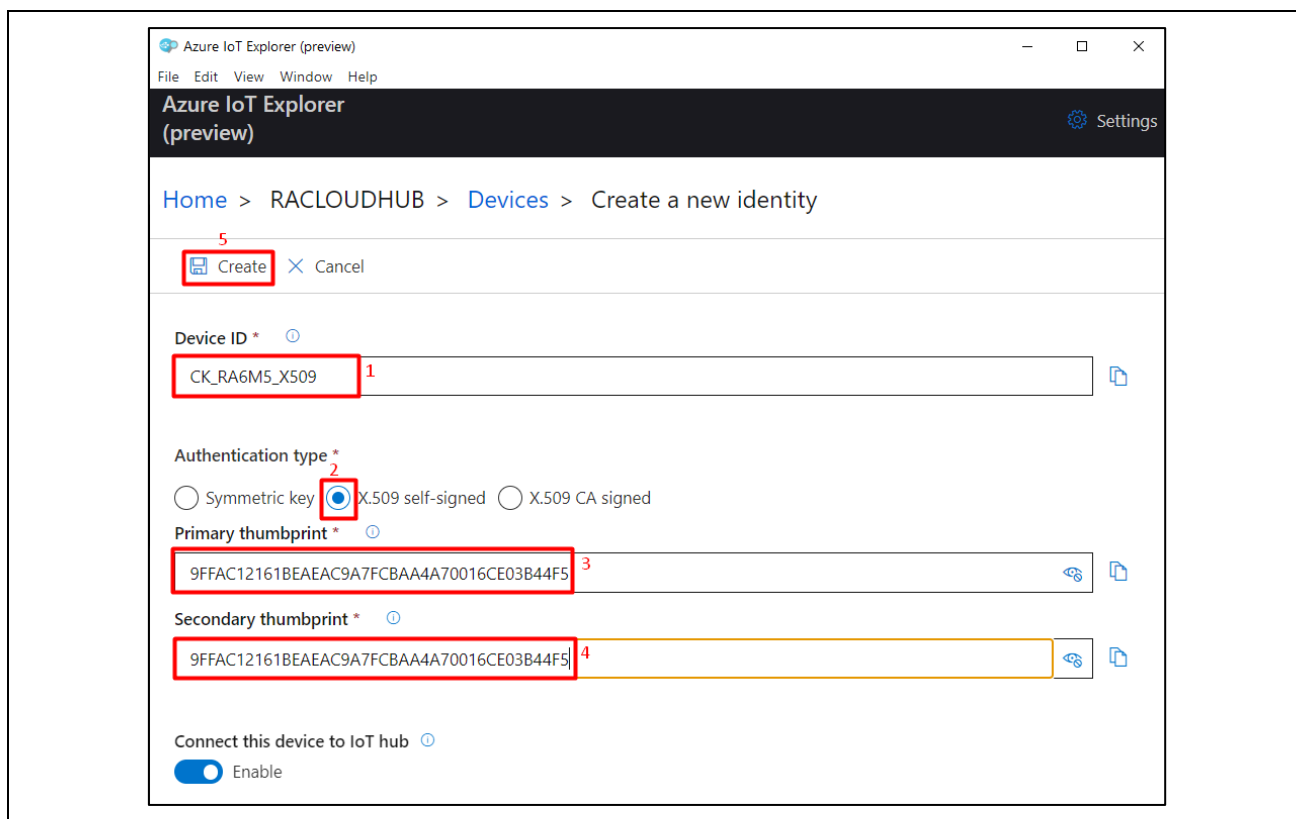

Figure 31. Naming, Authentication type and Thumbprints
2. In this stage, you have to give Device ID, Authentication type, Primary thumbprint, and Secondary thumbprint, then click on Create. Use fingerprint generated in Figure 23 in section 3.5.Certificate Creation Process, for the primary and secondary thumbprints. Follow steps 1-5 in Figure 31, to create the device.